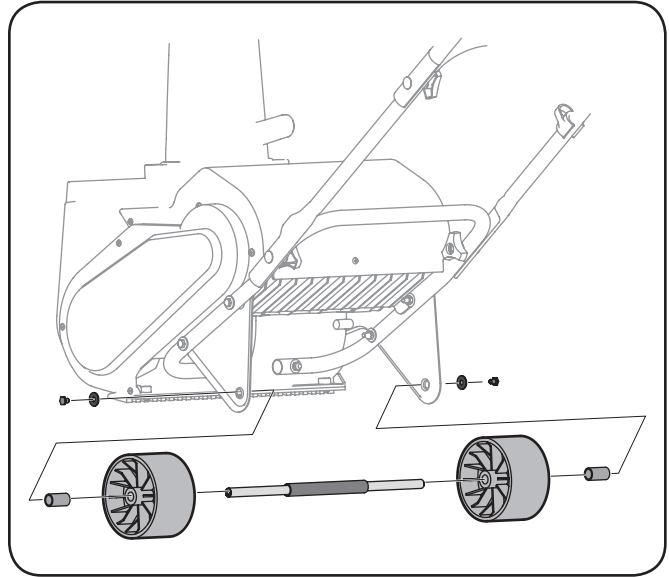

**Figure 7-4**
1. Remove the existing rubber paddles by unthreading the hex washer screws that secure them to the auger. See Fig. 7-4.